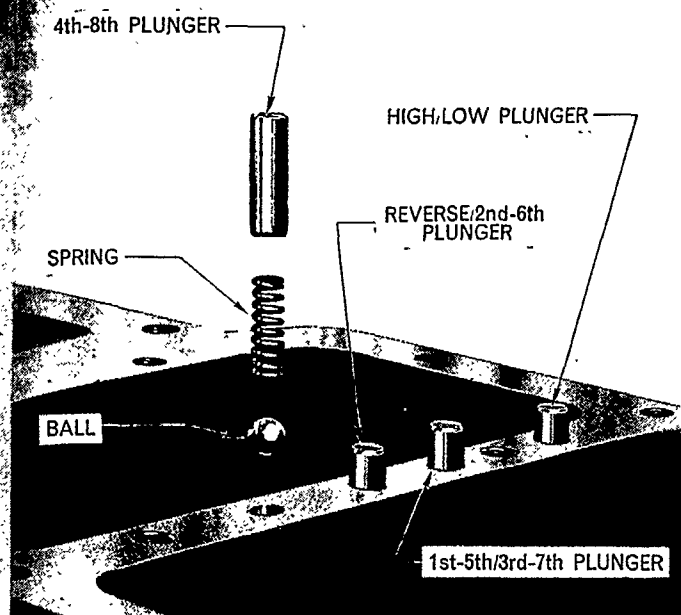

Figure 77
6. Remove the four shift rail detent balls, springs and plungers from their locations, Figure 77.
9. Install the four shift rail detent balls, springs and plungers, Figure 77, making sure the balls and plungers slide freely into their bores.